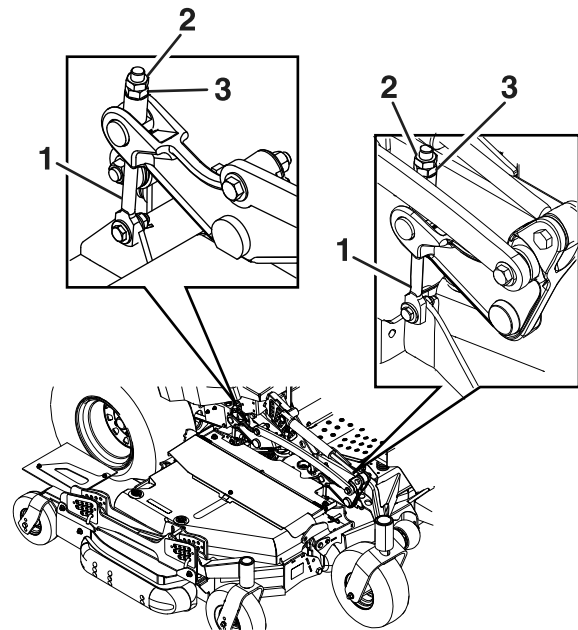

Figure 72
Loosen the jam nuts on the top of each deck adjuster. Fine-tune the adjuster on the front deck-lift assembly by turning it to get the correct height for the left and right, front blade tips on the center deck (Figure 72).
5. If the 4 deck adjusters (Figure 72) do not have enough adjustment to achieve the accurate height of cut with the desired rake, you can utilize the single-point adjustment to gain more adjustment.
6. To adjust the single-point system, first loosen the front and rear height-of-cut plate mounting bolts (Figure 72)